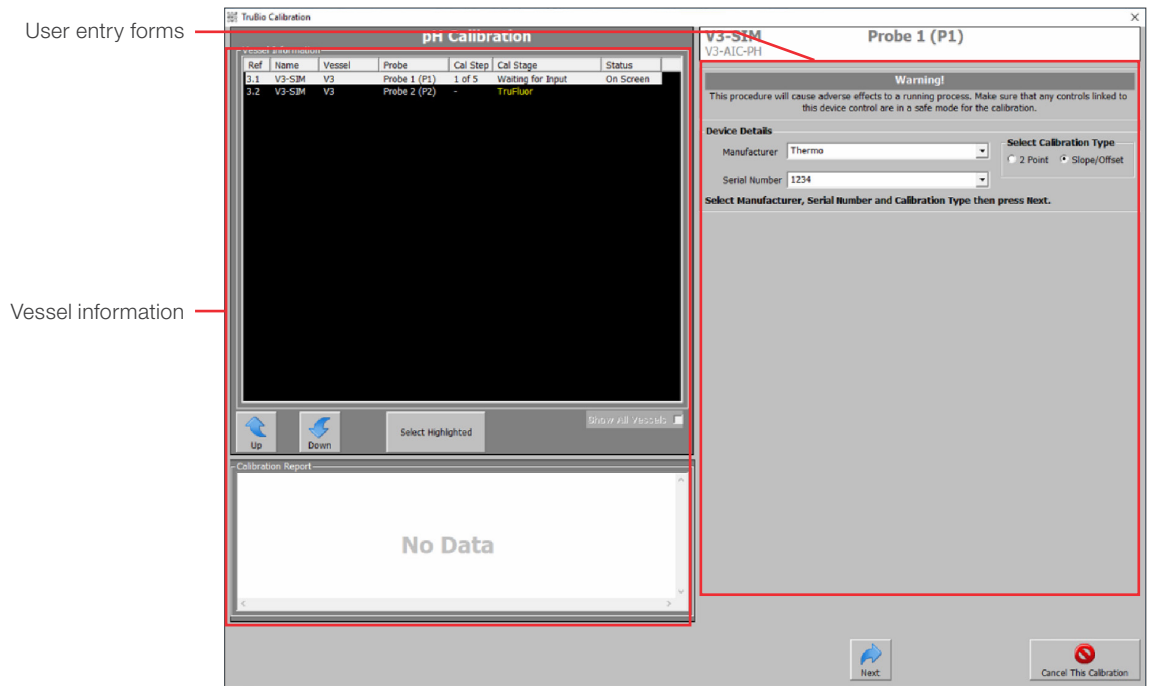

Figure 3.18. pH Calibration window.
1. From the **Calibration** tab of the **Detail** window, click **Calibrate**. This opens a series of screens that will walk you through the process (Figure 3.18).
- Enter the manufacturer and the serial number of the probe to be calibrated under **Device Details**. If the probe has previously been calibrated, you can select the serial number from the Serial Number drop-down menu (see Figure 3.18).